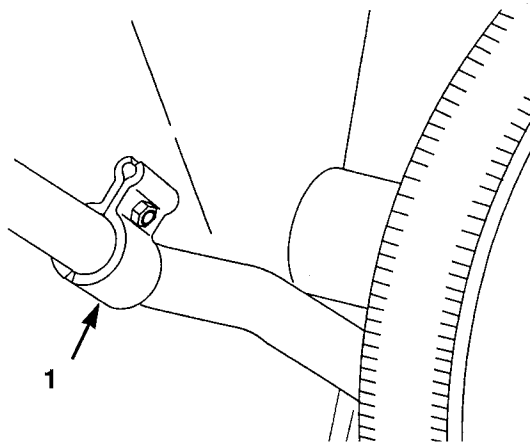

Figure 86
6. Loosely install a clamp to each side of the mower handle, using carriage bolts and lock nuts (Fig. 86). Make sure the clamps slide on the handle.